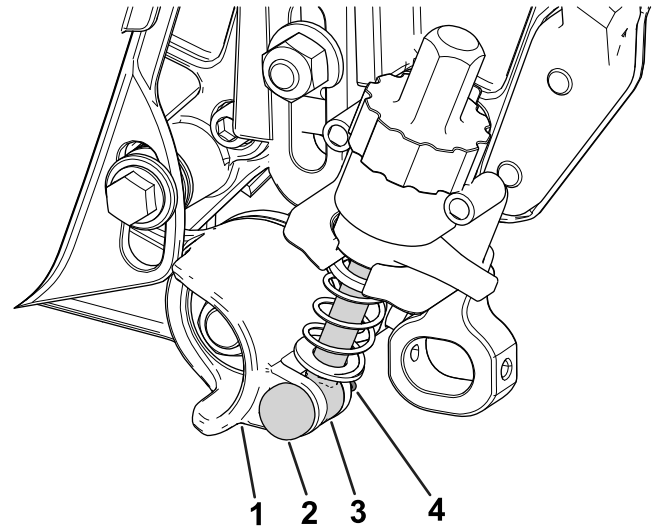

Figure 13
4. Align the adjuster-arm assembly rod near the adjuster collar on the idler assembly and secure it to the collar with an adjuster pin and cotter pin (Figure 13).